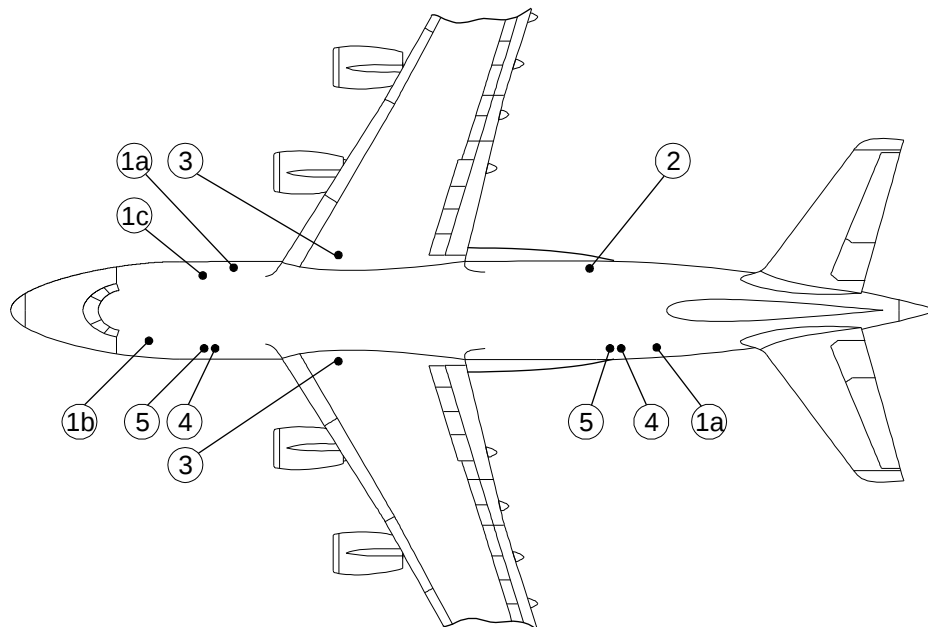

Figure 9. Placement of ground handling draw-off points (top view) for AN-124-100(-150)
- Figure 9. Placement of ground handling draw-off points (top view) for AN-124-100(-150);